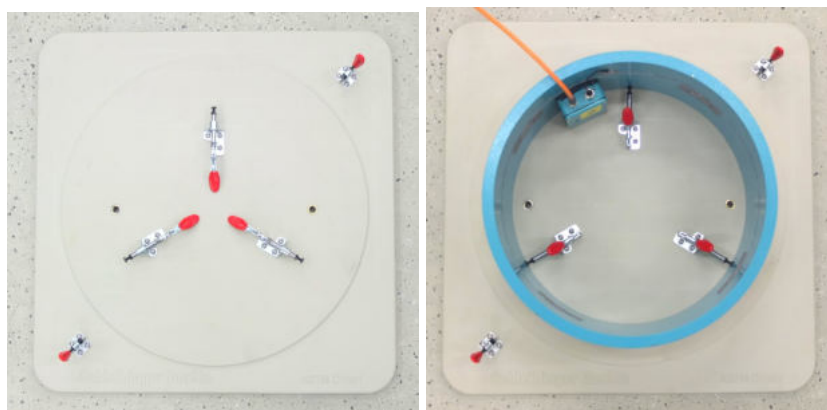

Figure 3: Base plate of the Shrinkage Ring with the toggle clamps (left) and placed inner ring (right).
- Set the inner steel ring onto the base plate and center it using the toggle clamps from the middle of the base plate (figure 3).